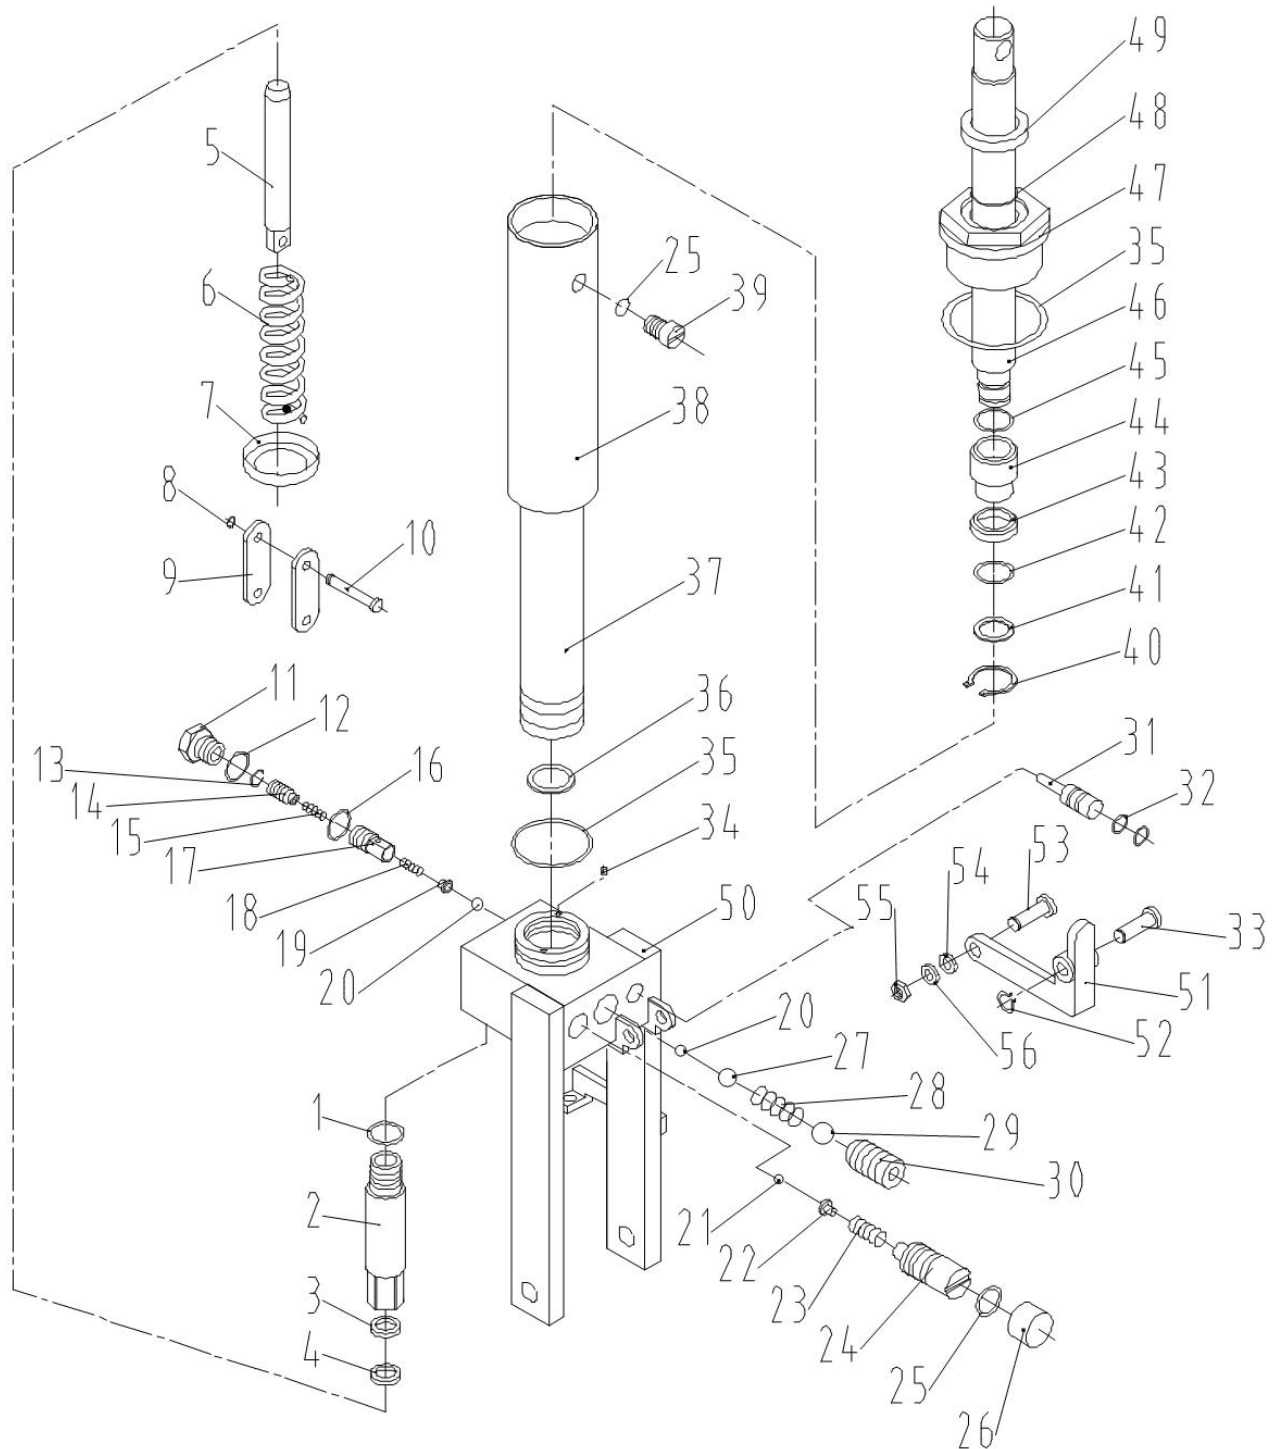

Figure 1
Screw out the 11# sealing screw in the pump (see figure 1 : pump) with a wrench; Pull the knob up; Unscrew the oil plug screw 39# and add hydraulic oil;
8. Materials of the sealing parts 1#,3#,4#,16#,25#,26#,32#,35#,36#,42#,43#,45#,48#,49# of the pump (see figure 1 : pump) is rubber, PU, whose maintenance interval is 2-year. Replace the sealings in time to avoid possible damage and poor performance of the truck.